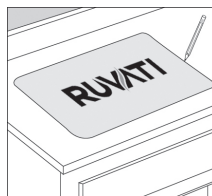

Figure 1
- Place the sink cut-out template on the countertop, where the sink is to be installed. Trace around the outside perimeter with a pencil (Figure 1). **Note: Make sure you are using the top-mount template, and not the undermount.**